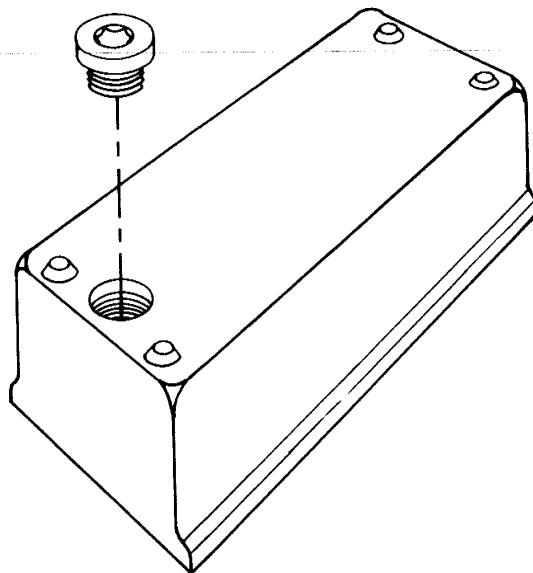

Figure 6-1. Location of the Drain/Fill Port
2. Using the 5/16 allen wrench, remove the oil plug from the bottom of the casting. Refer to Figure 6-1.